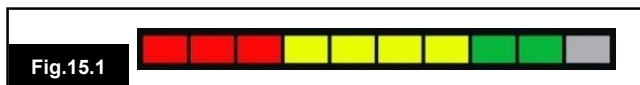

Fig.15.1
15.2 Battery Indicator (Fig 15.1)